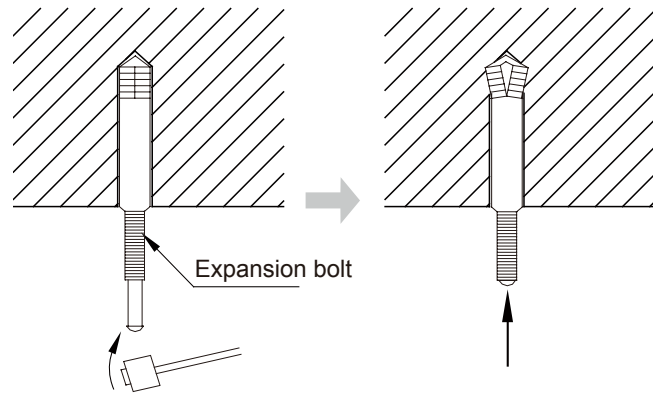

Fig. 4.1.4
- 2) Insert the M10 expansion bolt into the hole, and drive the nail into the bolt, as shown in Fig. 4.1.4.